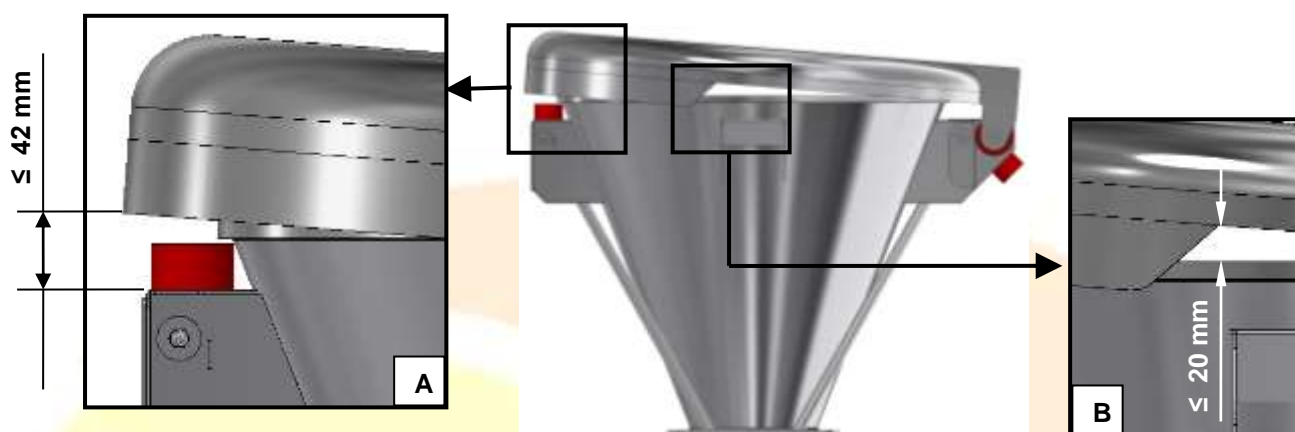

Figure 43 – Checking the efficiency of the micro-switch associated with the hopper cover
- Removable guard associated with the safety micro-switch** (an alternative to the device referred to in point 1). This is an interlocking cover which can be opened upward by rotating on a horizontal axis, intended to protect the inside of the hopper and, in particular, the zone involved in the moving parts used to portion the dough. It is made of heavy-duty transparent plastic material with a stainless steel perimeter. If, while the machine is running, the guard is lifted, the safety system triggers the emergency stop of the machine within the limits described in par. 5.2.3, point 2 and Figure 43; the stopping of each part takes place very quickly (a fraction of a second). In order to restart the moving parts, first it is necessary to close the cover completely so that it rests on the bottom, then press the RESET button indicated with ref. 3 in the Figures of par. 2.4.
- Removable guard (door) associated with the safety micro-switch** to access the weight chamber. This is an interlocking door that can open downward by rotating on a horizontal axis, intended to protect the inside of the weight chamber where parts are moving to limit the volume of the pieces to be produced and later expel them. It is made in stainless steel sheet metal. If, while the machine is functioning, the door is opened for more than 2 mm, the safety system will trigger the emergency shut-down of the machine, which occurs almost immediately (a fraction of a second). In order to restart the moving parts, first it is necessary to close the door completely, then press the RESET button indicated with ref. 3 in the Figures of par. 2.4
Carry out this test with no dough in the hopper. If, while the machine is functioning, the guard is lifted, the safety system triggers the emergency shut-down of every part, which would otherwise be dangerous when the distance between the lower edge of the guard and the level of radial protuberance diametrically opposite the rotation pin of the cover does not exceed 42 mm (see Figure 43/A); check with a millimeter ruler or a caliper or with a metal block of a thickness between 42.05 mm and 42.1 mm.
Also check that at the time the safety system intervenes there is no vertical space between the cover and the rim of the hopper (Figure 43/A). Also check that at the time the safety system intervenes in every point, in particular in the point shown in Figure 43/B, the space between the upper rim of the hopper and the cover is no greater than 20 mm.